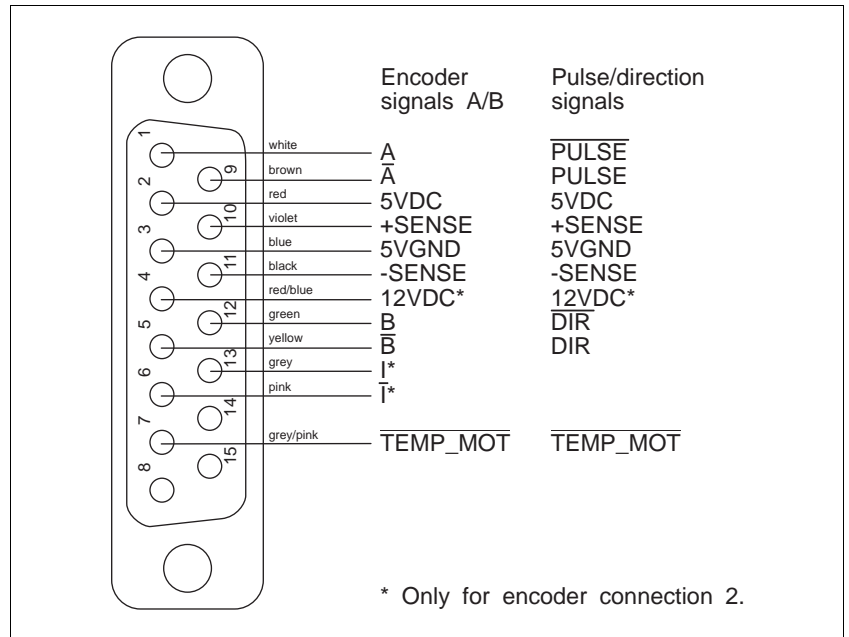

Fig. 2-8 Encoder connector - device end
1. Solder the litz wires to the connector as illustrated in fig. 2-8.